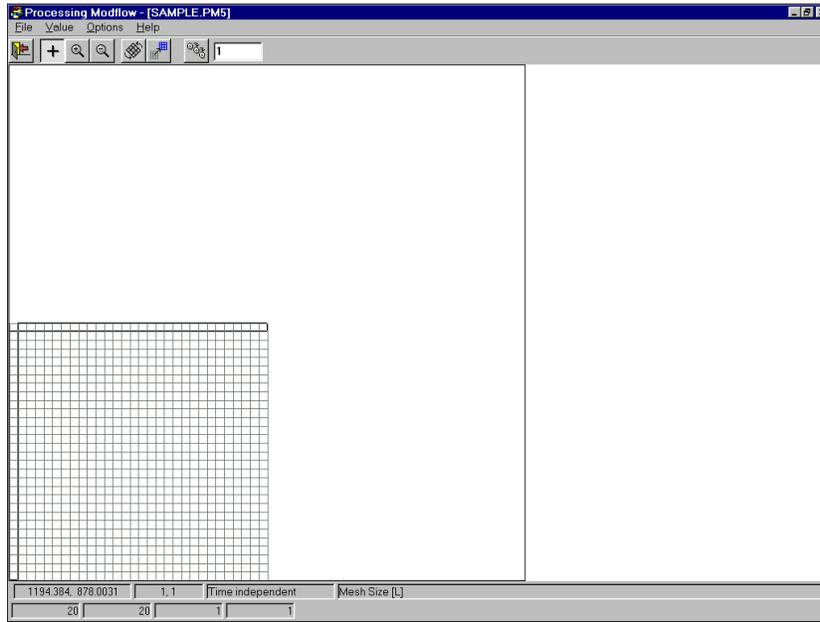

Fig. 1.4. The generated model grids
3. Click *OK*. *PMWIN* changes the pull-down menus and displays the generated model grid (Fig. 1.4). *PMWIN* allows you to shift or rotate the model grid, change the width of each model column or row, or to add/delete model columns or rows. For this example, you do not need to modify the model grid. Refer to Help Section for more information about the Grid Editor.